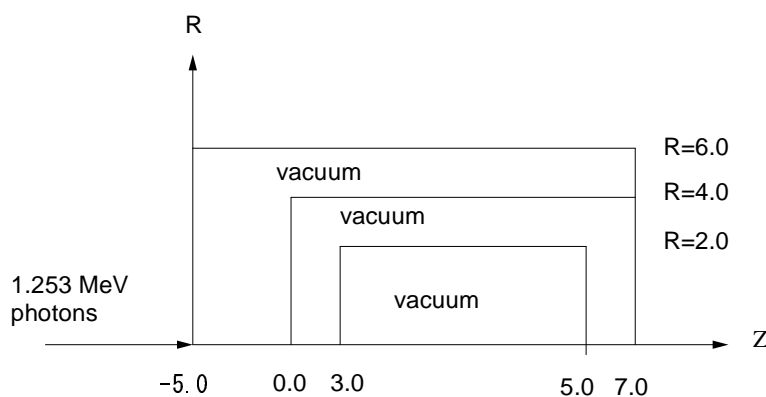

Figure 1: Geometry of `ucsource.f`
Geometry used in `ucsource.f` is a cylindrical geometry with cg as shown in Fig.1. All regions are set to vacuum (0) to test source. 1.253 MeV photon pencil beam enters on the cylinder from  $Z=-5\text{cm}$  along the  $Z$ -axis.